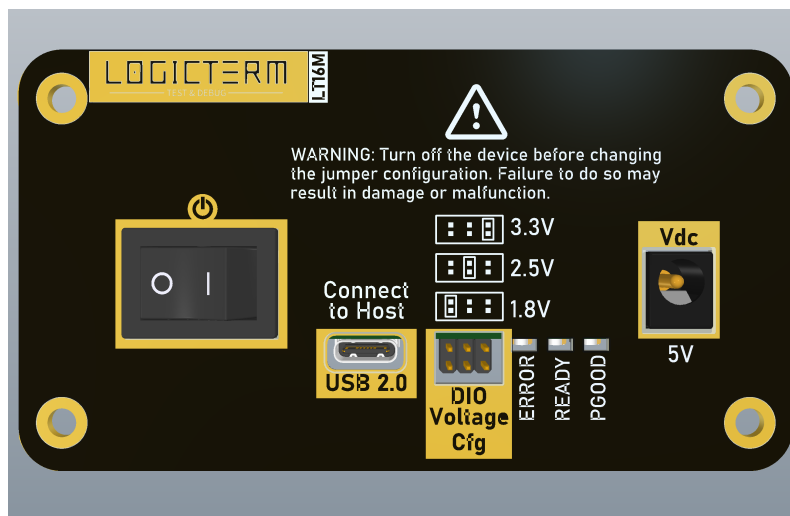

Figure 2.2: Back panel of LT16M showing jumper configuration
- Selectable LVCMOS levels: 1.8V, 2.5V, 3.3V (via jumper, figure 2.2)